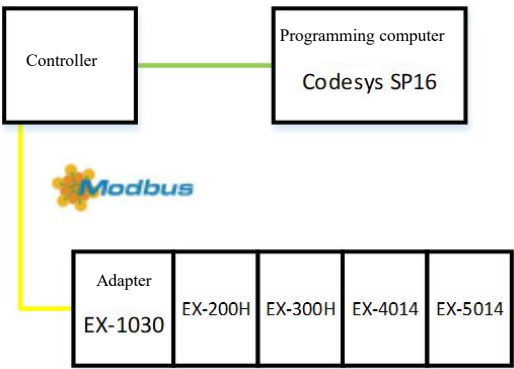

Figure 5-6-15 Communication connection diagram
1. Communication connection diagram, as shown in Figure 5-6-15.